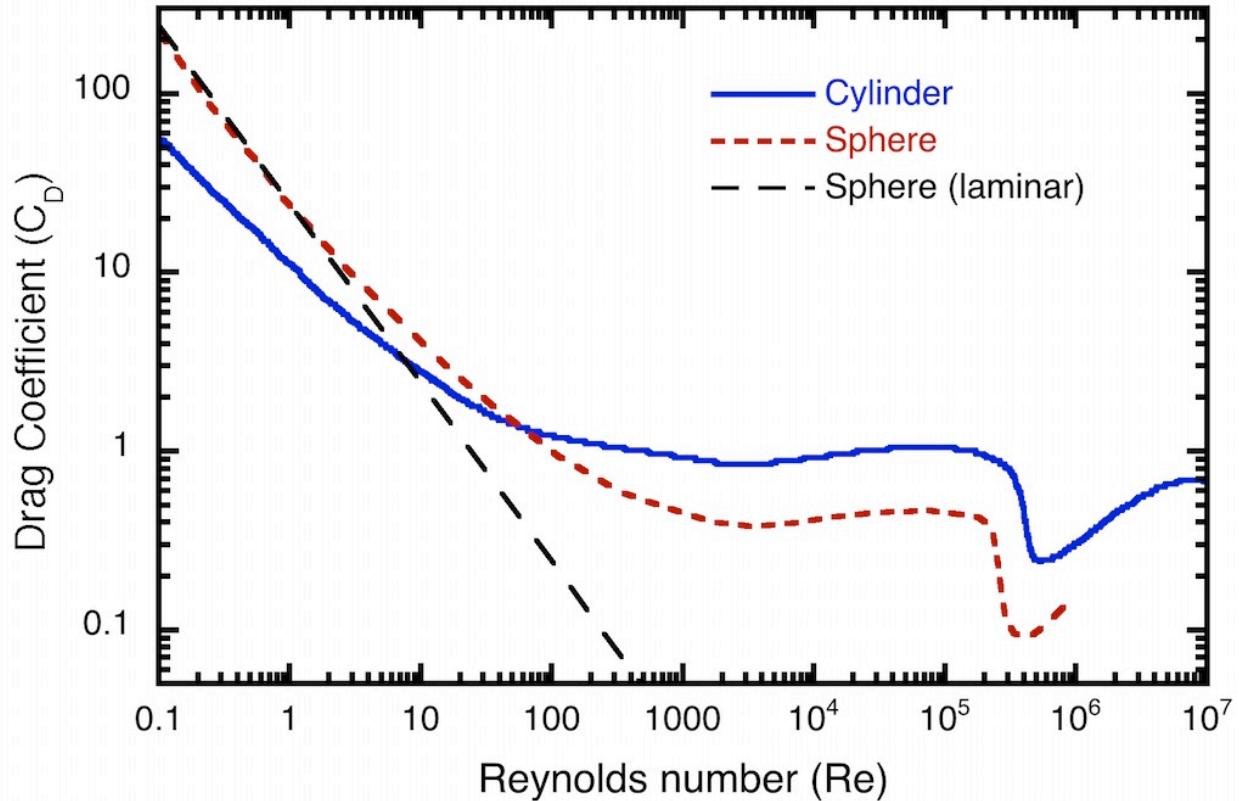

Figure 18. Drag coefficients as a function of Reynolds number for spheres and cylinders.
The above terminal velocity is **only valid for laminar flow**. For turbulent flow, there is no simple analytical relationship between Re_d and C_D , so one must resort to experiments or detailed (and difficult) computer simulations of the Navier-Stokes equations. Figure 18 shows a comparison of the actual C_D vs. Re_d with that predicted by the low- Re_d laminar-flow model. It can be seen that the relation for laminar flow is reasonable up to about $Re_d \approx 3$ but at higher Re_d , the flow is NOT laminar and thus the laminar flow result $C_D = 24/Re_d$ does not apply. As one would expect, C_D is higher with turbulent flow. Note also that at $Re_d \approx 3 \times 10^5$ there is a sudden decrease in C_D .
A similar C_D vs. Re_d plot for cylinders in cross-flow (i.e. with the flow in the direction perpendicular to the axis of the cylinder) is also shown in Figure 18, but for cylinders there is no simple analytical relationship analogous to the $C_D = 24/Re_d$ result for laminar flow over spheres. Note again the sudden decrease in C_D at almost the same Re_d as for spheres. Note that a 3 cm golf ball hit at 70 m/s in air has a Reynolds number of $(70 \text{ m/s})(0.03 \text{ m})/(1.5 \times 10^{-5} \text{ m}^2/\text{s}) = 1.4 \times 10^5$. Dimpling the golf ball decreases the transition Re_d somewhat, and thus enables a lower C_D (actually the dimpling also increases the lift due to the backspin on the ball, but that’s beyond our scope.)
- 3) Look up her drag coefficient in Figure 18.
3) From Figure 18, $C_D \approx 0.4$